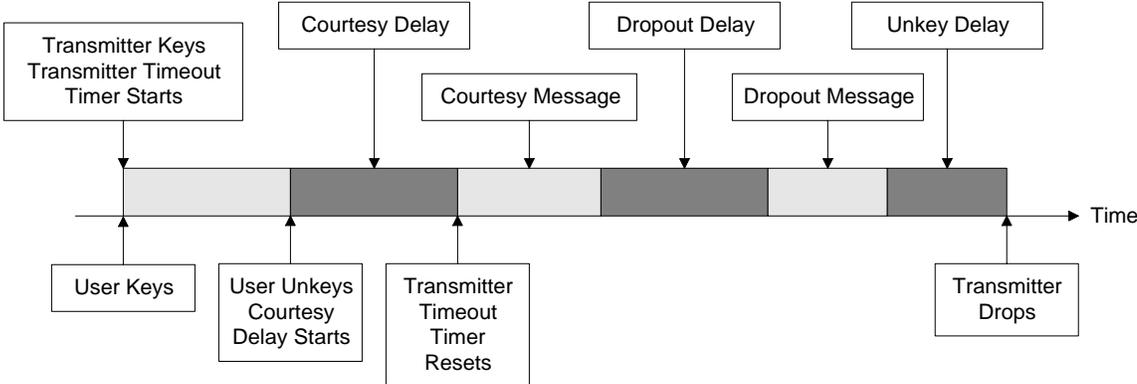

Figure 2
There are a number of commands which control the *Transmitter Tail Sequence*. *Figure 2* will help in the understanding of them. The terms used in these commands are defined below.
Figure 2 represents the *Transmitter Tail* sequence.
- The *Courtesy Delay* time is the delay from path drop (user unkeys) to when the *Path Timeout Timer* resets and the courtesy message begins. See *Figure 2* on page 11-3.
- The *Dropout Delay* time is the interval from the end of the *Courtesy Delay* (and *Reset Path Timeout Timer*) to the moment the transmitter is unkeyed. See *Figure 2* on page 11-3.